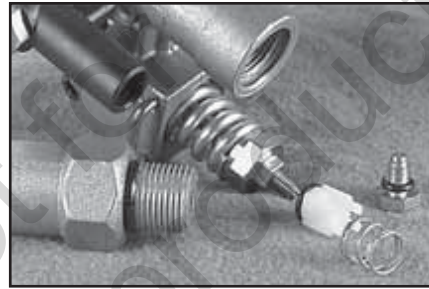

Figure 5
5. Tilt the pump up. The spring and check valve will fall out (Figure 5).